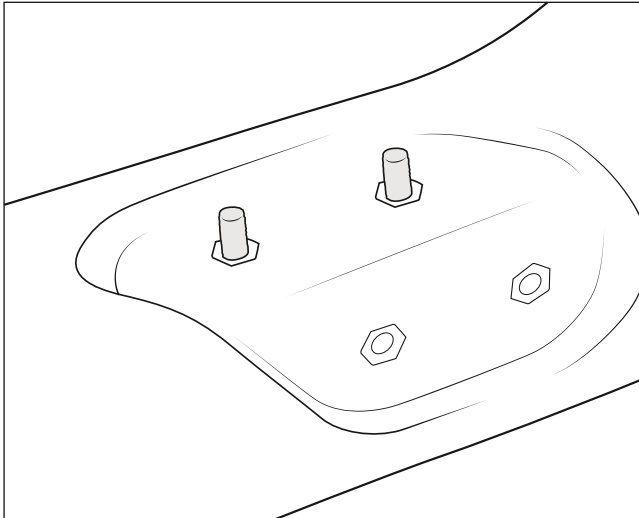
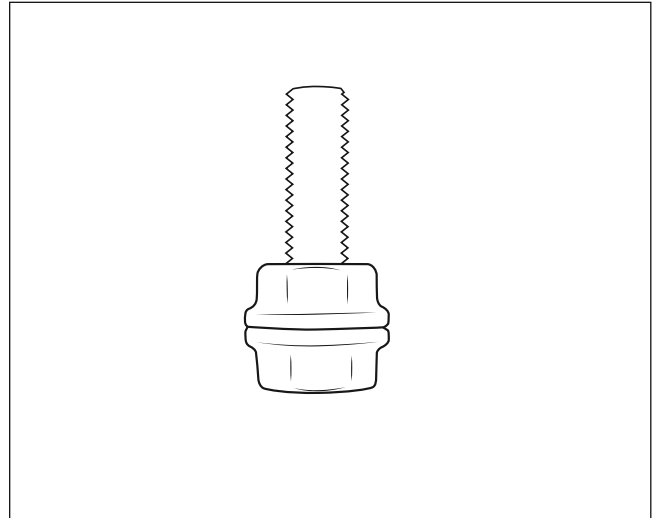

Figure 15
Figure 16
1. Install provided studs into threaded inserts in side pocket of snorkel body (fig. 15). Due to coating on threads, it may be necessary to lock the 2 nuts together using 2 wrenches (fig. 16), then use a wrench on the outer nut in order to fully seat the studs. Once seated snugly into the snorkel insert, loosen the nuts from one another and remove them from the stud, then repeat procedure on the second stud, and set the nuts aside for use later.